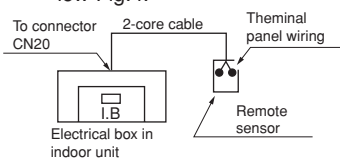

Fig.3
- The wiring connection of the indoor unit's electrical box and remote sensor is as shown in Fig.3. There are three methods of connecting the 2-core cable to the electrical box.